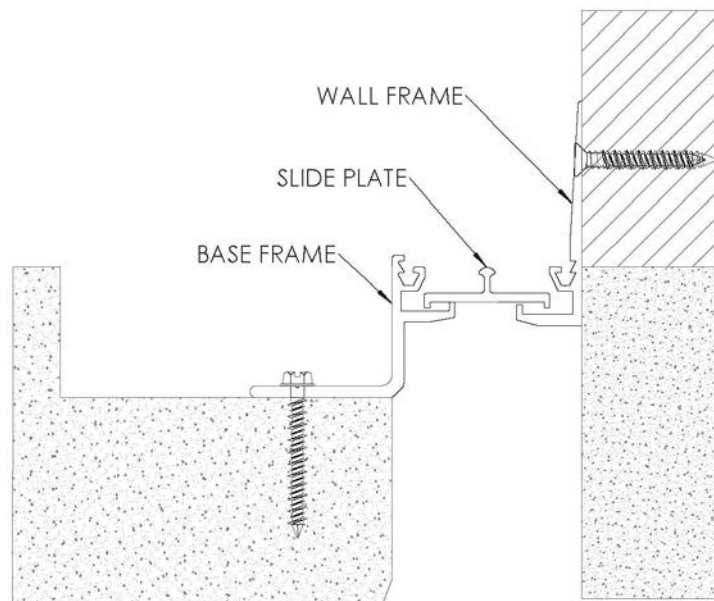

FIGURE 4
4. Place slide plate (not required on 1" joint sizes) in the lower channel of the base frame and wall frame with the bent ends of the plate pointing downwards. **See Figure 4**